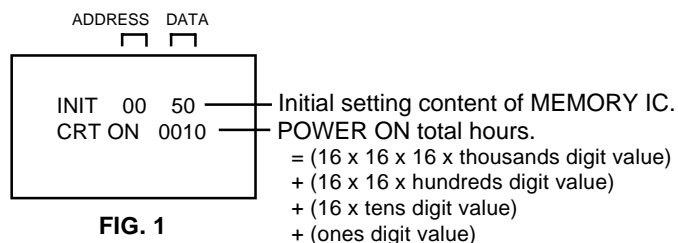

FIG. 1
2. Press both VOL. DOWN button on the set and Channel button **(6)** on the remote control for more than 2 seconds. ADDRESS and DATA should appear as **FIG 1**.